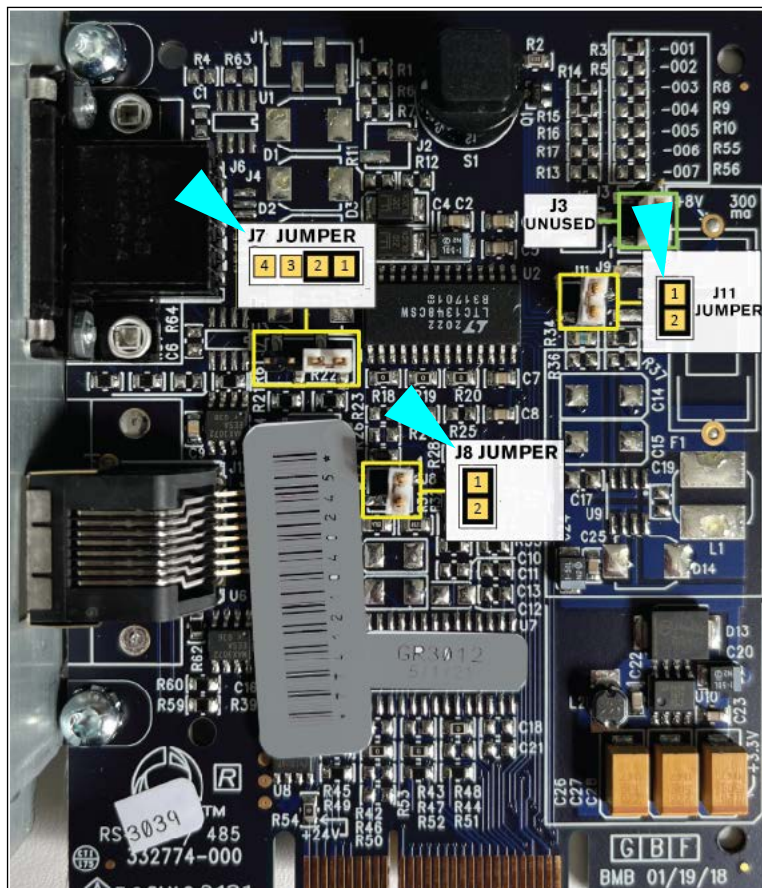
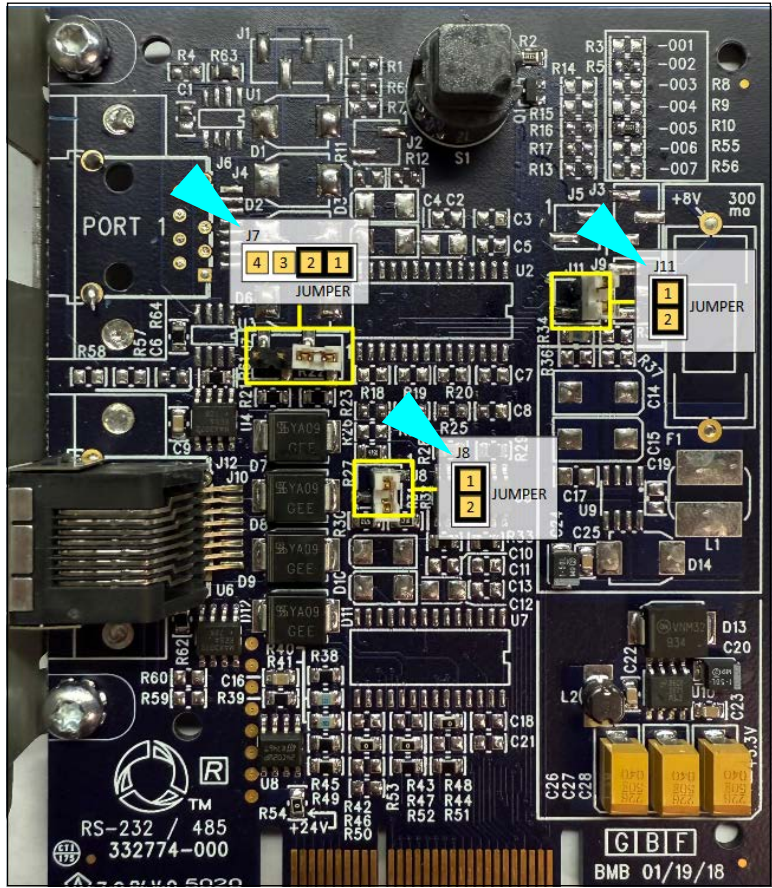

Figure 11. 0330020-618 Communications Card Jumper Settings
Figure 13. 0330020-640 Communications Card Jumper Settings
- An available RS-485 port in the TLS-450PLUS (Comm cards with part numbers 0330020-618, 0330020-639 and 0330020-640 are compatible). Depending which Comm card you use, you must configure Jumpers J7, 8 and 11 on that card for proper operation (see Figure 11- Figure 13 as required).